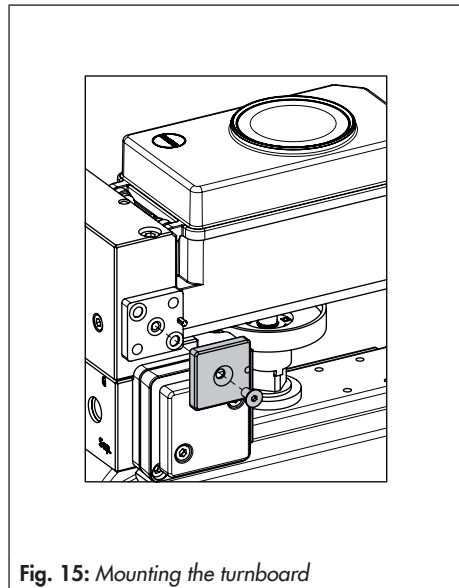

Fig. 15: Mounting the turnboard
9. Mount the turnboard marked '**Doppel**' for double-acting actuators or the turnboard marked '**PST**' for single-acting actuators with partial stroke testing. See Fig. 15.